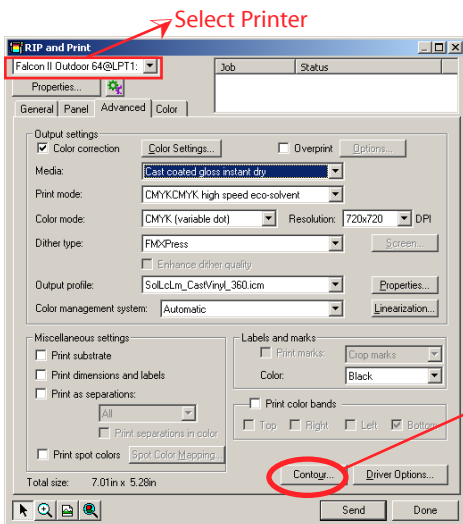

Fig.2a
4. Select Printer for output: See Fig. 2a